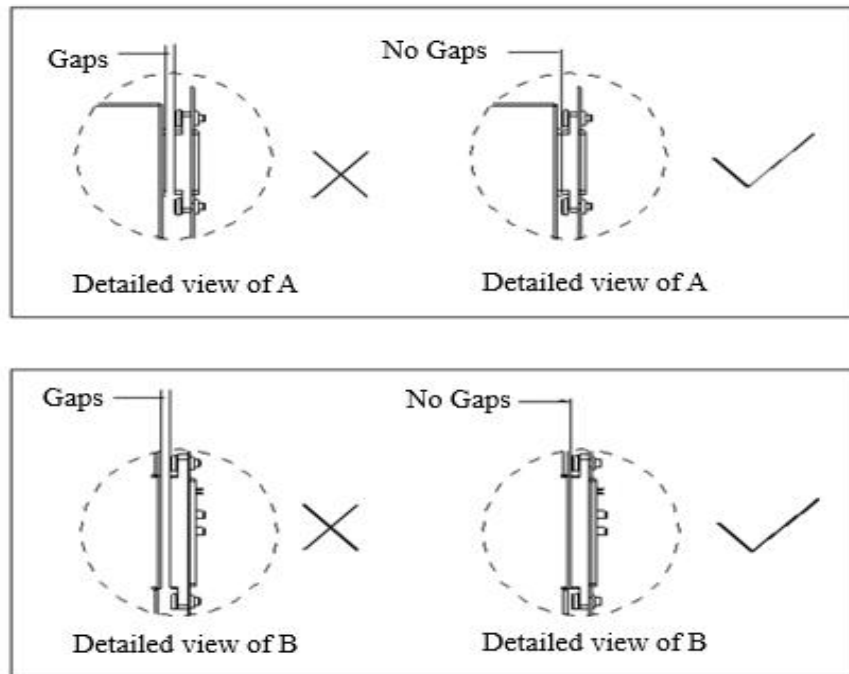

Figure 2-8 Module Terminals and System Terminals Installation
2) After the module is mounted on the pile, it is required that module terminals and system terminals are tightly connected, no gaps allowed. Ensure module terminals and system terminals are connected reliably, see Figure 2-8.